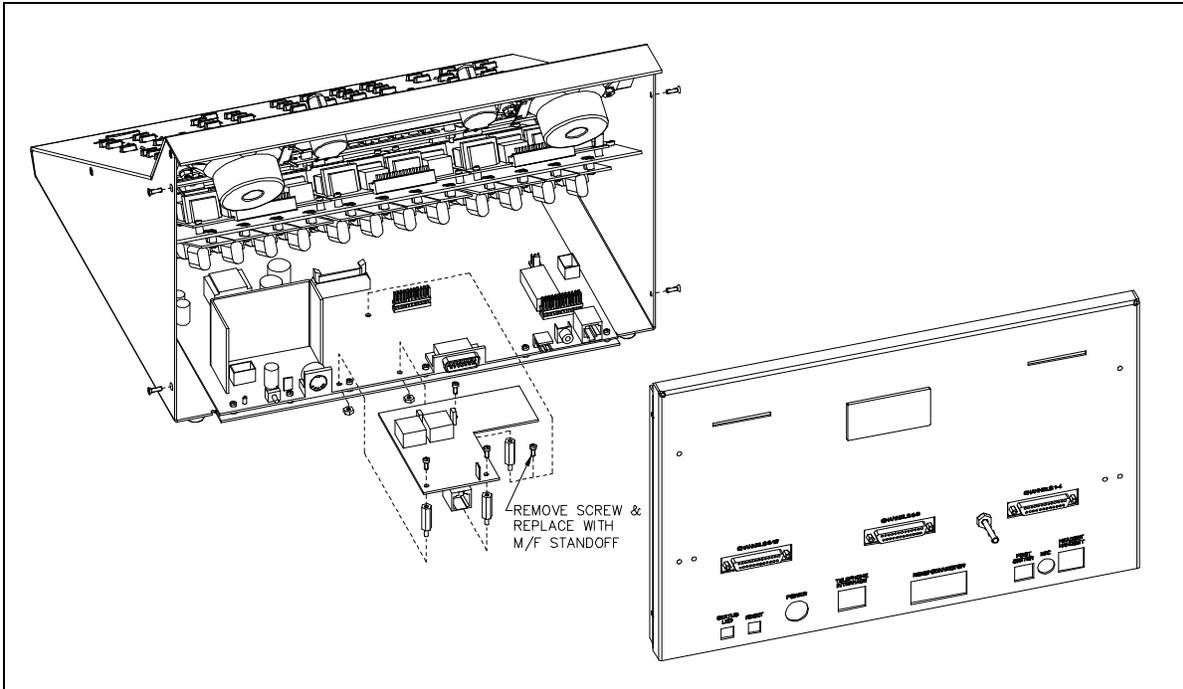

Figure 1.
2. Remove the 4 screws securing the rear panel. Gently pull the rear cover from the housing and disconnect the ribbon cables (SLV-CBL-P) attached to the surge suppression PCBA. Lay the rear panel flat. See Figure 1. (Do not install the phone PCBA at this point.)
6. Remove the screw in the center of the main control PCBA. Screw in one of the supplied #4-40 male/female standoffs. See Figure 1.
7. Attach the remaining two standoffs in the two open holes highlighted by circles on the main control PCBA. Place the threaded side through the holes and attach the supplied #4-40 nuts to the underside. See Figure 1.
8. Place the CTH PCBA on the standoffs and attach with the supplied #4-40 screws. The J13 connector plugs into the P13 connector on the main control PCBA. See Figure 1.